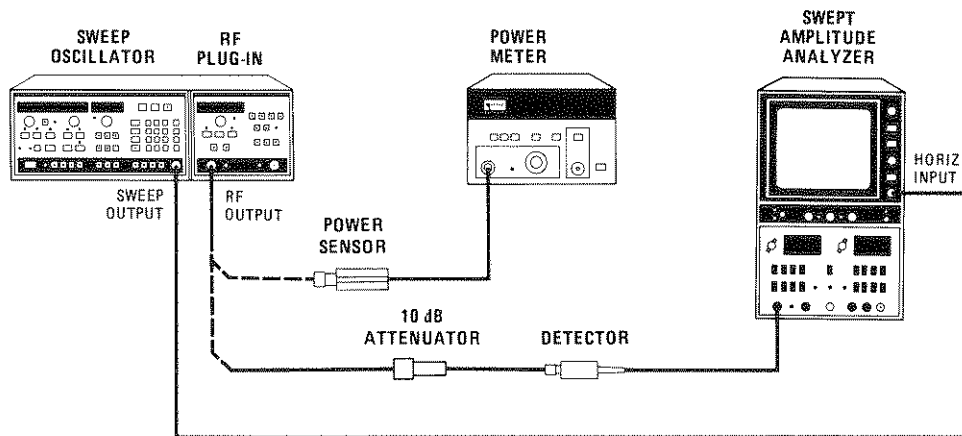

Figure 5-25. Power Calibration Test Setup
1. Connect equipment as shown in Figure 5-25, with the 8755C monitoring the RF output. Select 8350A \square MOD. Observe the full band (0.01 to 8.4 GHz) trace and select a Band 0 frequency (0.01 to 2.0 GHz) where the power level is approximately in the center of the power variation range. Select CW mode at that frequency. Set POWER for a front panel indication of +0 dBm.